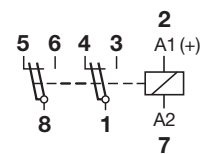

Fig.1 AC voltage endurance
**Connection diagram****Fig.1 AC voltage endurance****Fig. 2 DC load limit curve****Dimensions [mm]****Technical approvals, conformities**